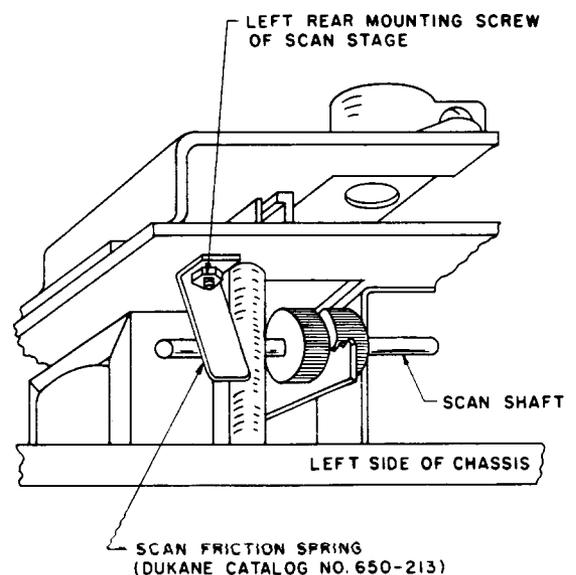

Fig. 1 – Installation of Scan Friction Spring
2.05 Scan Friction Spring: To install or replace the scan friction spring, remove the chassis per 2.04(1). Remove nut and lockwasher from the left rear mounting screw of the scan stage (see Fig. 1). Position scan friction spring, **do not bend spring**. Proper tension on scan shaft will be obtained by tightening nut and screw holding spring (see Fig. 1). Replace lockwasher and nut. Reassemble per 2.04(2).